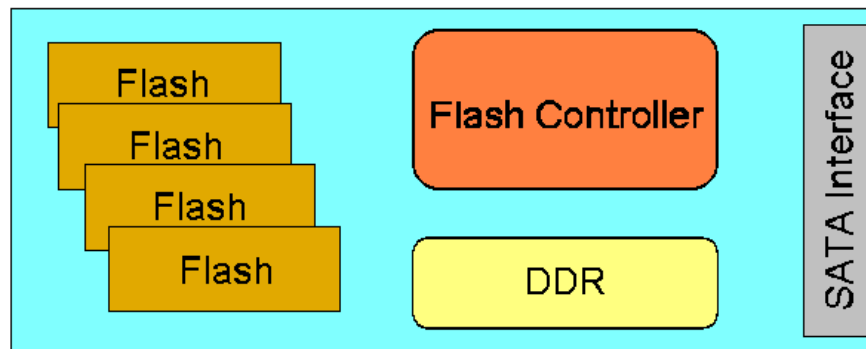

Figure 2. Delkin mSATA SSD block diagram with DDR cache buffer
- Figure 2. Delkin mSATA SSD block diagram with DDR cache buffer5